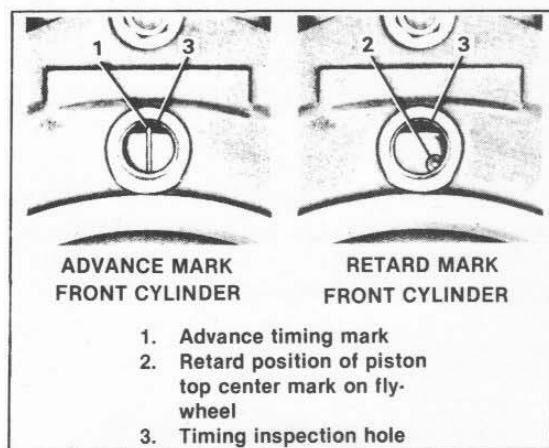

Figure 3-7. Timing Marks
2. See Figure 3-7. Remove the spark plugs and turn the engine until the front piston is at the top of its compression stroke. With front piston in this position the advance timing mark (1) will align with the timing inspection hole.
5. See Figure 3-7. Now turn the engine over until the rear piston is at the top of its compression stroke. With the rear cylinder in this position the front cylinder retard mark (2) will align with the timing inspection hole.